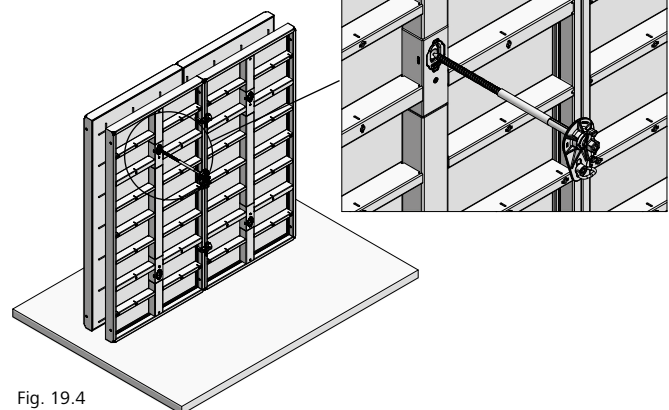

Fig. 19.4
5. Screw the XT tie rod DW 20 through the combination tie hole of the final-formwork side into the combination tie hole of the initial-formwork panel 36 mm ratchet spanner (Fig. 19.4). An articulated flange nut is not required on the initial-formwork side.